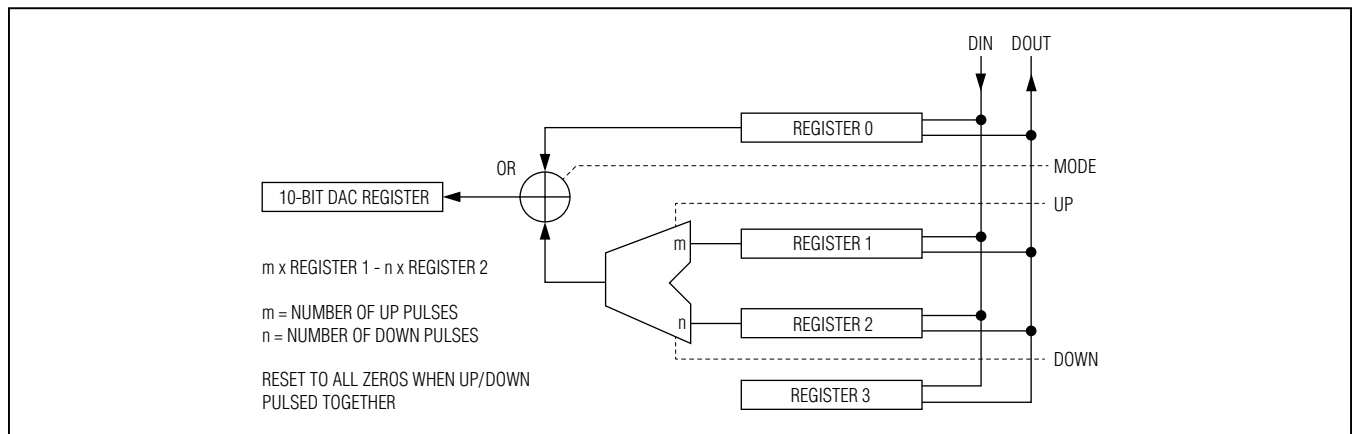
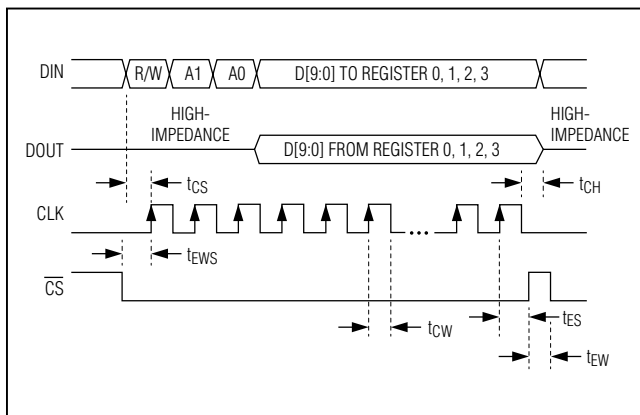
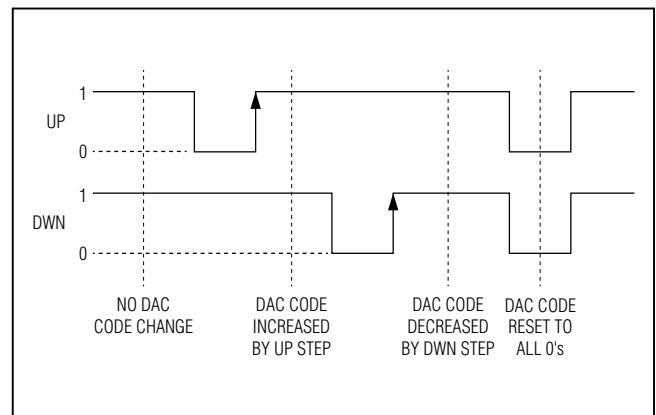

Figure 1. Register Configuration Diagram
Figure 2. SPI Timing Diagram
Figure 3. UP/DWN Control Diagram (MODE = 1)
Figure 1 shows the configuration of the internal registers of the device and Figure 2 shows the timing of the SPI bus. Register 0 sets the DAC code to the desired value, register 1 selects the step-up code, and register 2 selects the step-down code.
After powering up the device, UP and DWN should both be set to 0 to reset the m and n counters to 0. This results in a 10-bit all 0 code out of the mathematical block in Figure 1, and applied to the 10-bit DAC register that drives the DAC. To increase (decrease) the code using the UP (DWN) pin, the DWN (UP) pin must be high and the UP (DWN) pin should be pulsed low to high. The device is designed to produce no wraparounds when using UP and DWN stepping so that the DAC code maxes out at 1023 or goes no lower than 0. See Figure 3 for the UP and DWN control operation.
The device can be controlled with a 4-wire, SPI-compatible serial interface. Figure 2 shows a timing diagram for the interface. In the write mode, a 13-bit word is loaded into the device through the DIN pin, with \overline{CS} set low. The first bit of the word in the write mode is 0, and the next two bits select the register to be written to (Table 2). The next 10 bits contain the data to be written to the selected register. After the 13 bits are shifted in, a low-to-high \overline{CS} command is applied and this latches the 10 bits into the selected register. The entire write command is ignored if \overline{CS} is pulsed low to high before the last data bit is successfully captured.